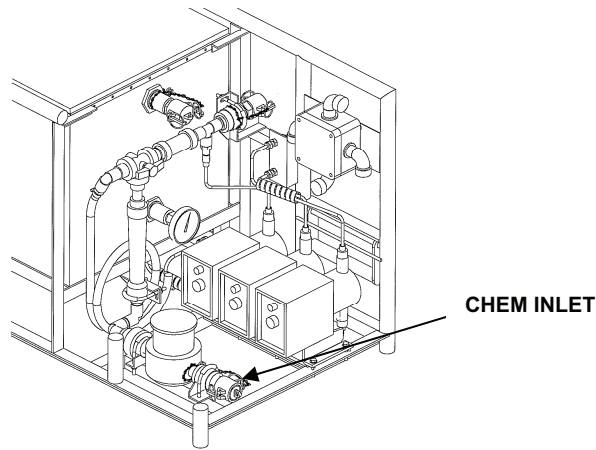

Figure 8. Chemical Module Product Inlet.
22. Disconnect the product hose (white) at inlet on chemical module. Drape it into cleaning tank. See Figure 8.